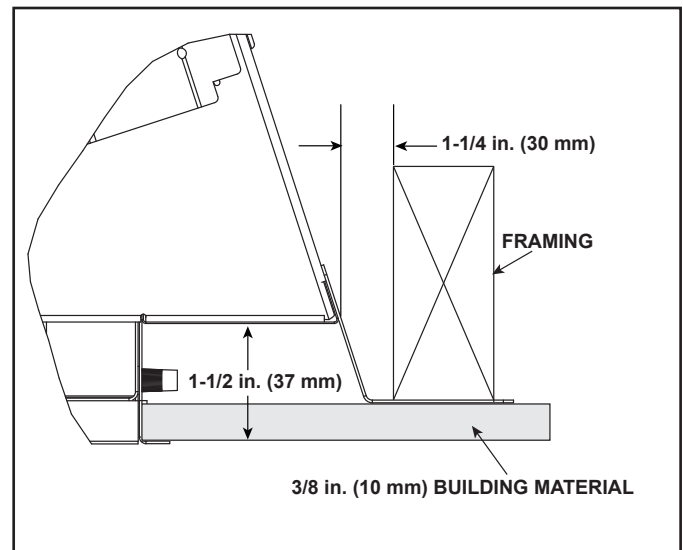

Figure 13.2 Front Side Finishing Detail
2. Screw each nailing tab to the adjoining framing material. Ensure that the air space clearance is maintained on the sides of the fireplace. See Figure 13.2.